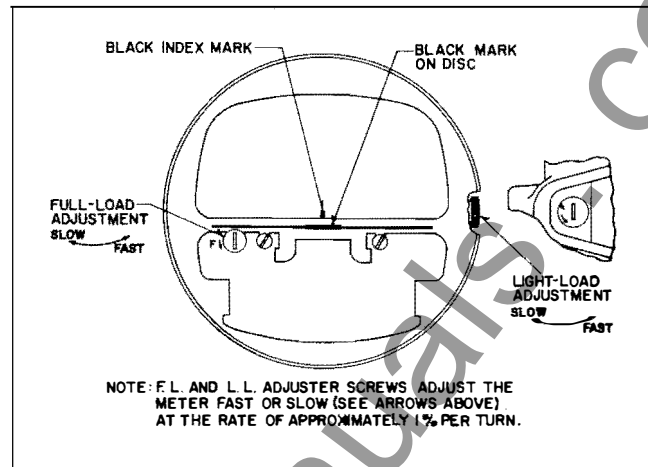

Fig. 2. Single-Phase Meter Adjustment
3. If the meter "as-found" is outside the limits at full-load, make a full-load adjustment (See Fig. 2) and make another test. Repeat until the meter is within limits at the full-load point.
light-load, make a light-load adjustment (See Fig. 2) and make another test. Repeat until the meter is within limits.